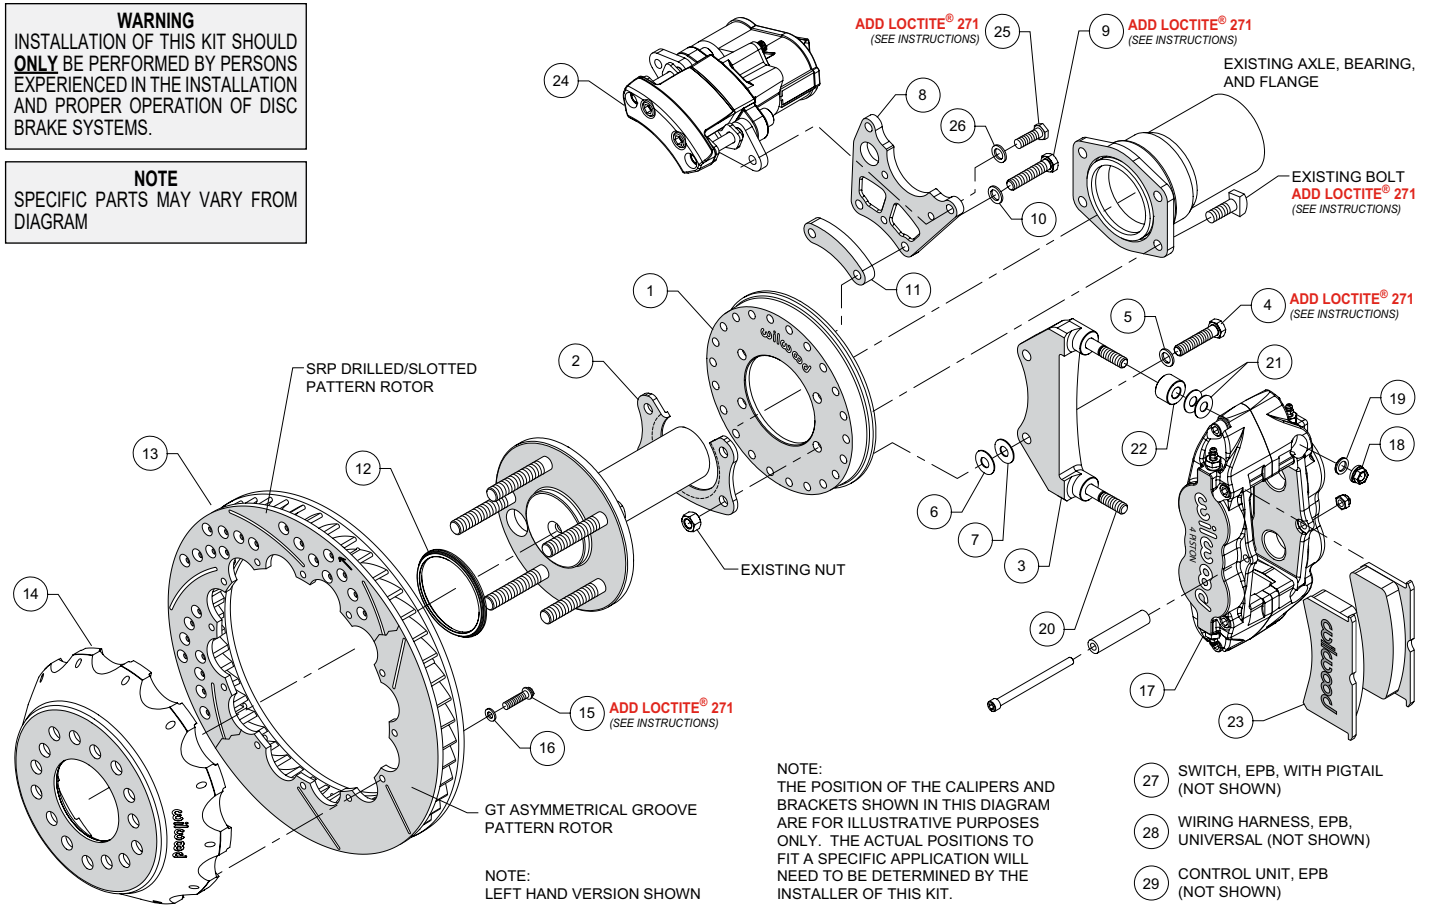
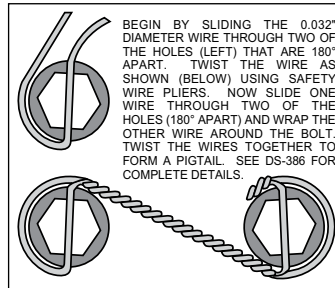

Figure 1. Typical Installation Configuration
Figure 5. Safety Wire Diagram
NOTE: Numbers in parenthesis refer to the parts list and Figure 1 on the preceding pages.
- Orient the backing plate (1) as shown in Figure 1 and Photo 1, and slide it onto the axle housing flange. Ensure the backing plate fits flush against the axle housing flange. Reinstall the axle into the axle housing.
- Install the bearing retainer (2) with the opening pointing upward and the lip facing inward (toward the bearing), as shown in Figures 1 and 4, and Photo 2. Secure retainer and backing plate to the axle housing flange using the Original Equipment Manufacturer (OEM) bolts and nuts, Figure 1 and Photo 3. Apply red *Loctite*® 271 to the OEM bolt threads and torque to OEM specifications.
•Start by determining the best location for the service caliper (17). This caliper is usually mounted in the 3:00 or 9:00 o'clock position, but may be rotated up or down approximately 45 degrees and still allow for proper bleeding, Photo 4. Orient the service caliper bracket (3) as shown in Figure 1 and Photo 5, and install to the backing plate (1) in the desired location using bolts (4) and washers (5). Temporarily tighten bolts. Next, mount the service caliper onto the bracket. Mount the service caliper using lock nuts (18) and washers (19), Figure 1. Temporarily tighten the lock nuts. Check that the caliper (including inlet fitting and hose) has sufficient clearance to all surrounding components through the full suspension travel. Relocate the caliper/bracket on the backing plate as needed to ensure proper clearance is achieved.
•Determine the best location for the EPB caliper (24). **NOTE:** *The EPB caliper motor extends farther inboard than the service caliper and therefore needs additional consideration when determining a mounting location with sufficient clearance.* In the example application shown in Photo 6, the EPB caliper has sufficient inboard clearance to the leaf spring. However, if the EPB caliper were mounted closer to the 12:00 o'clock position, the inner body of the vehicle would hit the caliper during full compression of the suspension.
•Orient the EPB caliper bracket (8) as shown in Figure 1 and Photo 7, and install to the backing plate (1) in the desired location using bolts (9), washers (10), and spacer (11). Temporarily tighten bolts. **NOTE:** The EPB bracket is reversible. In one direction the bracket will position the EPB caliper closer to the service caliper, and vice versa if reversing the bracket. Next, mount the EPB caliper (24) to the bracket using bolts (25) and washers (26). Temporarily tighten bolts. **NOTE:** EPB calipers are Left and Right handed, however they can be used on either side of the vehicle to best suit your specific application. Check that the EPB caliper (including wiring harness connector) has sufficient clearance to all surrounding components through the full suspension travel. Relocate the EPB caliper/bracket on the backing plate as needed to ensure proper clearance is achieved.
•Once the caliper positions have been determined, remove both the service (17) and EPB (24) calipers, leaving both brackets in place on the backing plate. For the EPB bracket, remove the bolts one at a time, apply red Loctite® 271 to the threads, and torque to 35 ft-lb. The service caliper bracket will be final installed after shimming is determined.
•Orient the rotor (13) and the hat (14) as shown in Figure 1 and Photo 8. Attach rotor to hat using bolts (15) and washers (16). Apply red Loctite® 271 to the bolt threads and torque to 155 in-lb using a criss-cross pattern. For an added measure of security, the bolts may be safety wired using standard 0.032 inch diameter stainless steel safety wire as shown in Figure 5. Please refer to Wilwood's data sheet DS-386 (available at www.wilwood.com/Pdf/DataSheets/ds386.pdf) for complete safety wire installation instructions.
•Initially place two .035" thick shims (21) and one spacer (22) on each stud of the service caliper bracket (3) as shown in Figure 1 and Photo 10. Mount the caliper onto the bracket using lock nuts (18) and washers (19), Figure 1. Temporarily tighten the lock nuts and view the rotor through the top opening of the caliper. The rotor should be centered in the caliper, Photo 11. If not, adjust by adding or subtracting shims (6 and/or 7) between the service caliper bracket (3) and the backing plate (1). Always use the same amount of shims on each of the two mounting bolts. Once the caliper alignment is correct, remove the bracket mounting bolts (4) one at a time, apply red Loctite® 271 to the threads, and torque bolts to 35 ft-lb.
- Mount the EPB caliper (24) onto the caliper mounting bracket (8) using bolts (25) and washers (26), Figure 1. Apply red *Loctite*® 271 to bolt threads, and torque to 30 ft-lb.
•**NOTE:** *The service caliper (17) in this brake kit utilizes a 1/8-27 NPT pipe thread inlet. OEM rubber brake hoses generally cannot be adapted to Wilwood calipers. The preferred method is to use steel adapter fittings at the caliper, either straight, 45 or 90 degree (use PTFE tape on pipe threads of adapter fitting for proper sealing to caliper) and enough steel braided line to allow for full suspension travel. Carefully route hoses to prevent contact with moving suspension, brake or wheel components. NOTE: Wilwood hose kits are designed for use in many different vehicle applications and it is the installer's responsibility to properly route and ensure adequate clearance and retention for brake hose components. Wilwood offers universal brake flex line hose kits, domestic (3/8-24 IF) chassis fittings, order:*